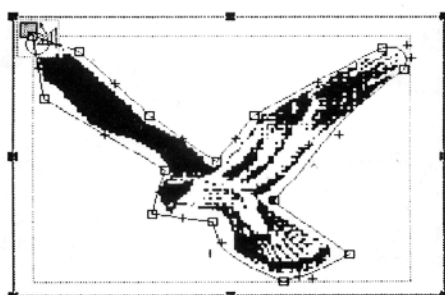

Fig 3. Note the vector outline around the Kestrel.
3). Now, using either the vector module in SL or an external vector program, create a vector outline around the bitmap image (see fig 3.)